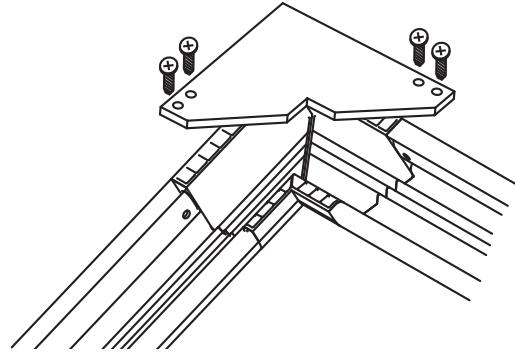

Figure 9
- ① If screen is being flown (suspended) or is over 120" (viewing area) height or width, install Corner reinforcement Gussets to all four corners (see Fig. 9).